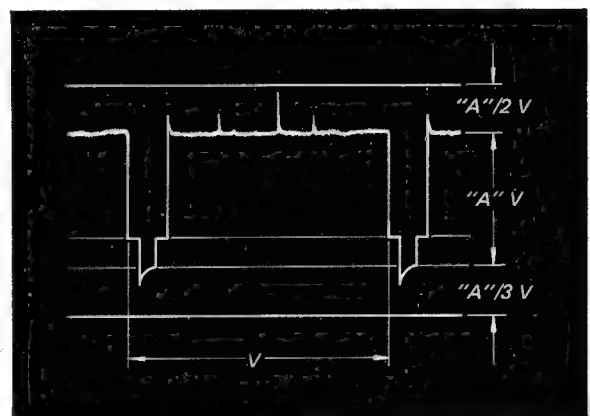

Fig. 6-1. White clip and dark clip levels
13. Adjust R238 so that the negative spike in the vertical blanking pulse falls 30% $\pm 10\%$ below sync tip amplitude. See Fig. 6-1.
14. Adjust R237 (White Clip) so that extreme peak-white parts of the waveform are A + A/2 volts (p-p) as shown in Fig. 6-1.